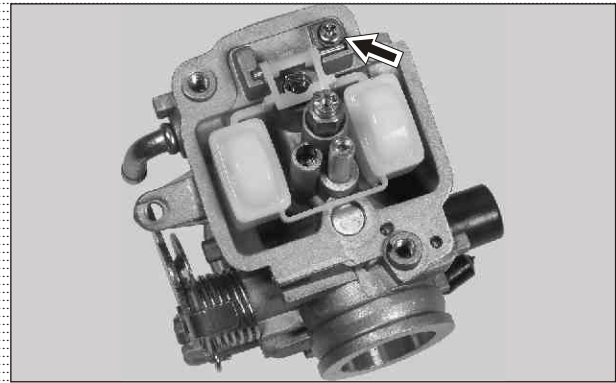

Fig. 4.23
- Remove screw valve seat. (Fig. 4.23)